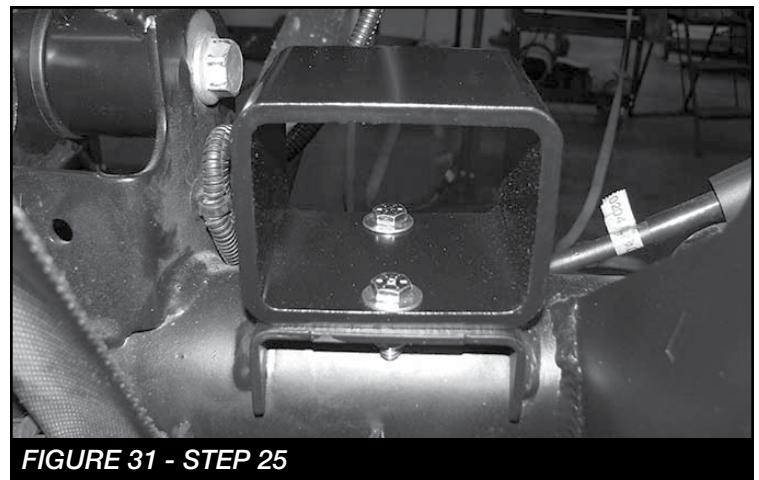

FIGURE 31 - STEP 25
25. Locate FT50401BK Rear Bumpstop Spacer. Position the spacer onto the factory bumpstop pad on the axle and attach with the supplied 5/16" x 1" bolts and hardware. **SEE FIGURE 31**